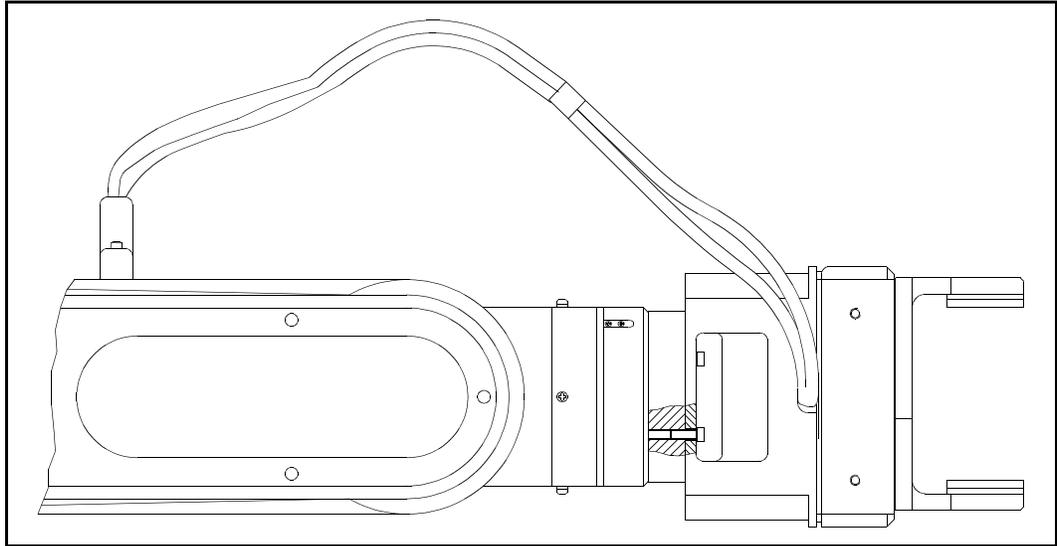

Figure 4-7: Mounting DC Servo Gripper (side view)
6. Using four M4x10 socket screws and a 3mm Allen key, attach the gripper to the adapter plate, as shown in Figure 4-7.